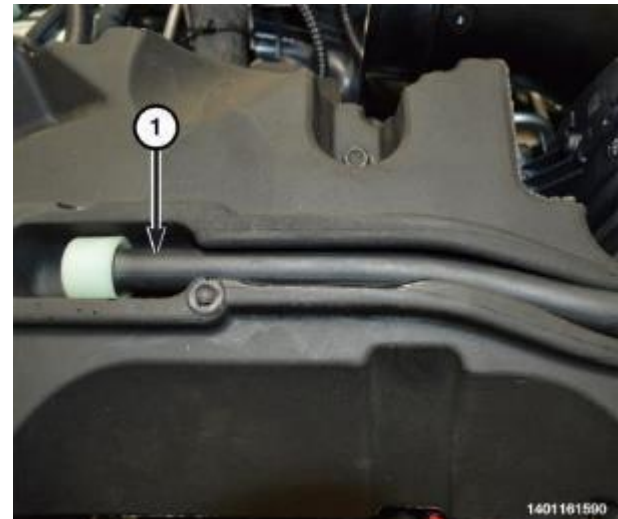

Figure 65 – Left Bank Fuel Rail Cover
- 115. Install the vent hose to the left fuel rail cover (1) (Figure 65).